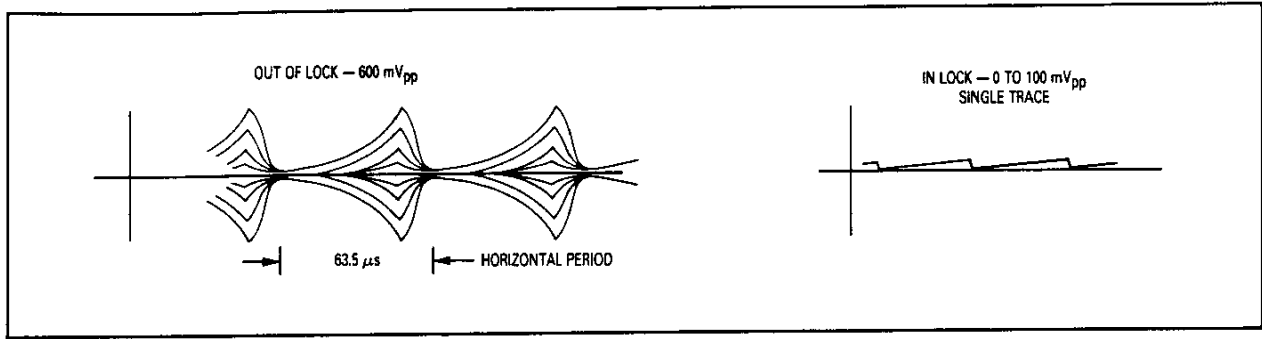

Figure 9. VCO Lock — Voltage at Pin 7
If the required chroma is present at Pins 4, 5 (same as Pin 24), and if the oscillator is known to be running, then lockup is just a matter of adjusting the trimmer on Pin 9. As noted earlier, the scope probe cannot be put on the oscillator for this adjustment. Instead, put the scope on the AFC filter, Pin 7. Waveforms as shown in Figure 9 will be observed as the trimmer is adjusted.
4. Put the oscilloscope probe on Pin 7 of the TDA3330. Adjust the Variable Capacitor, connected to Pin 9, until the VCO is In Lock. This will happen when the trace signal drops from ~650 mVpp to less than 100 mVpp. Try to make the signal as small as possible, possibly down to dc. (Make tilt flat) Note: See Figure 9.